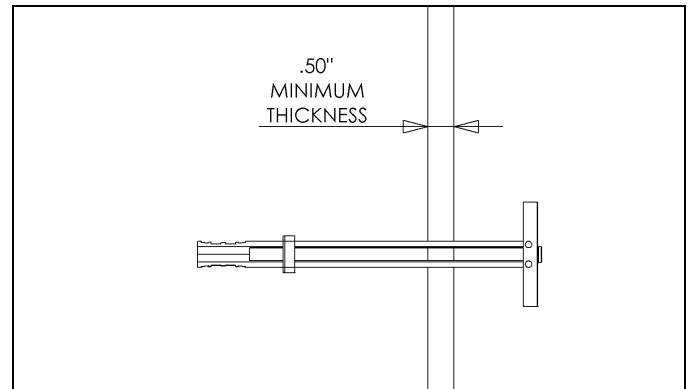

Figure 9.
4. With plastic anchor (100) inserted in hole, slide finger grip together to turn end inside hole perpendicular to wall (see Figure 9).